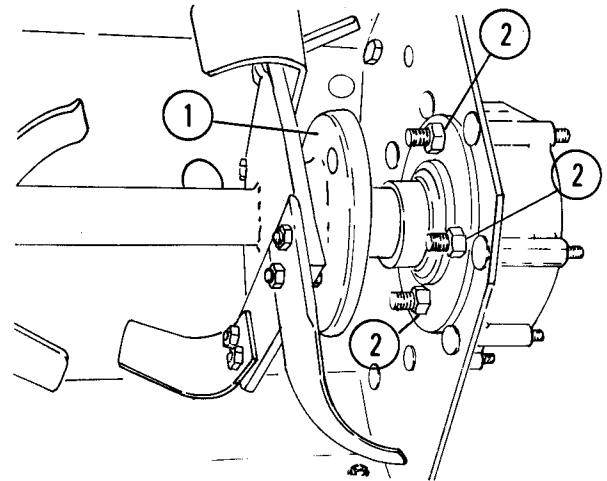

Fig. 25 — Tine Shaft (R.H. Side)
2. Remove 4 remaining nuts holding the flangettes in place, Figure 25.